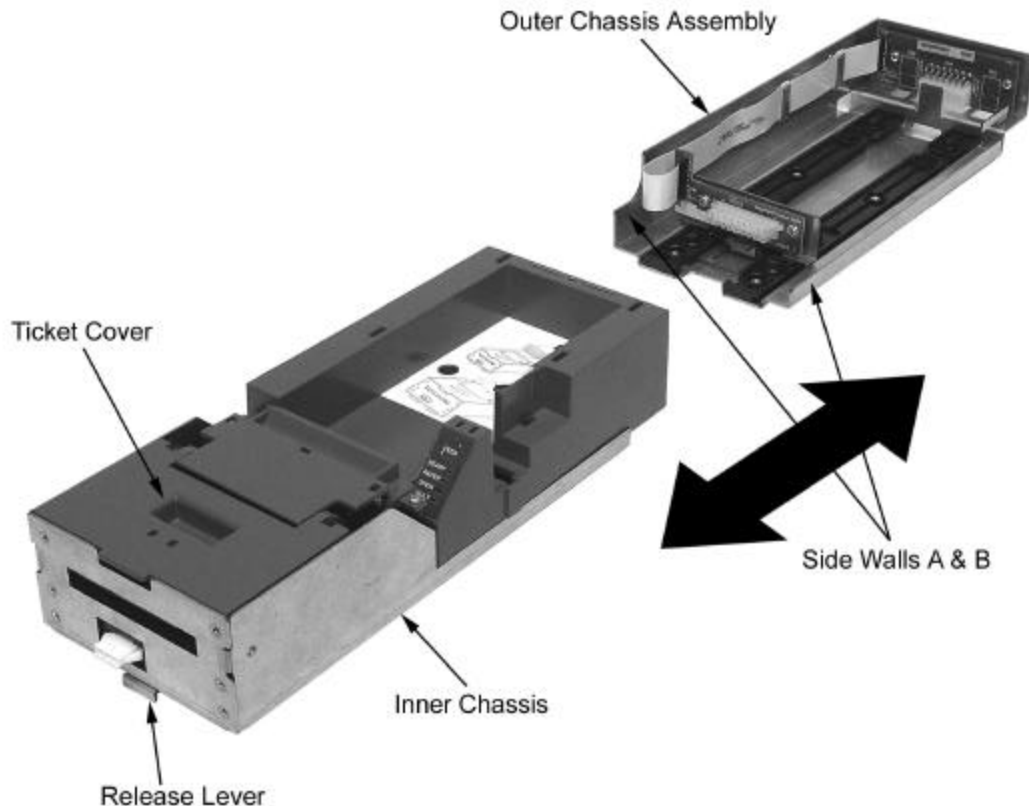

Figure 15. Racking/Unracking the Inner Chassis
- Align the base of the Inner Chassis with the outer walls of the Outer Chassis, seating it within side walls A and B as shown in Figure 15.